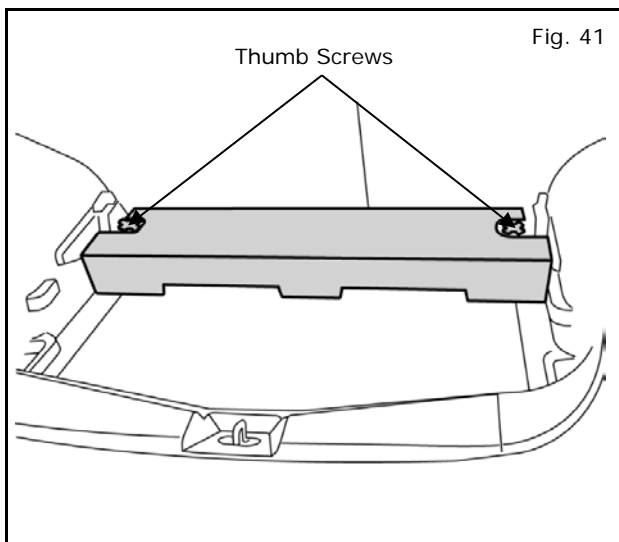

Fig. 41
- b) Align the threaded wing bottoms through to the subwoofer and secure into place with the provided thumb screws. Take care that the wire pigtail from the subwoofer comes out of the bottom of the unit forward in vehicle and then circles back under the floor board into the amplifier. (Figure 41)